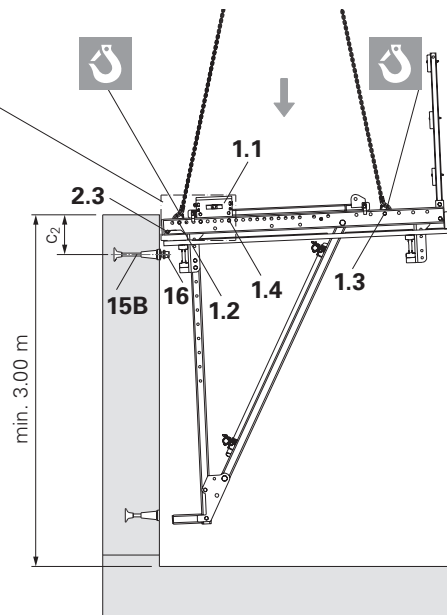

Fig. A2.06
- Insert Fitting Pins $\varnothing 26$ (1.2 + 1.3) into the holes of the Crossbeam, and secure Fitting Pins with cotter pins. (Fig. A2.06)
3. Lower platform unit and insert crossbeam heads into the Mounting Rings (16). (Fig. A2.06)